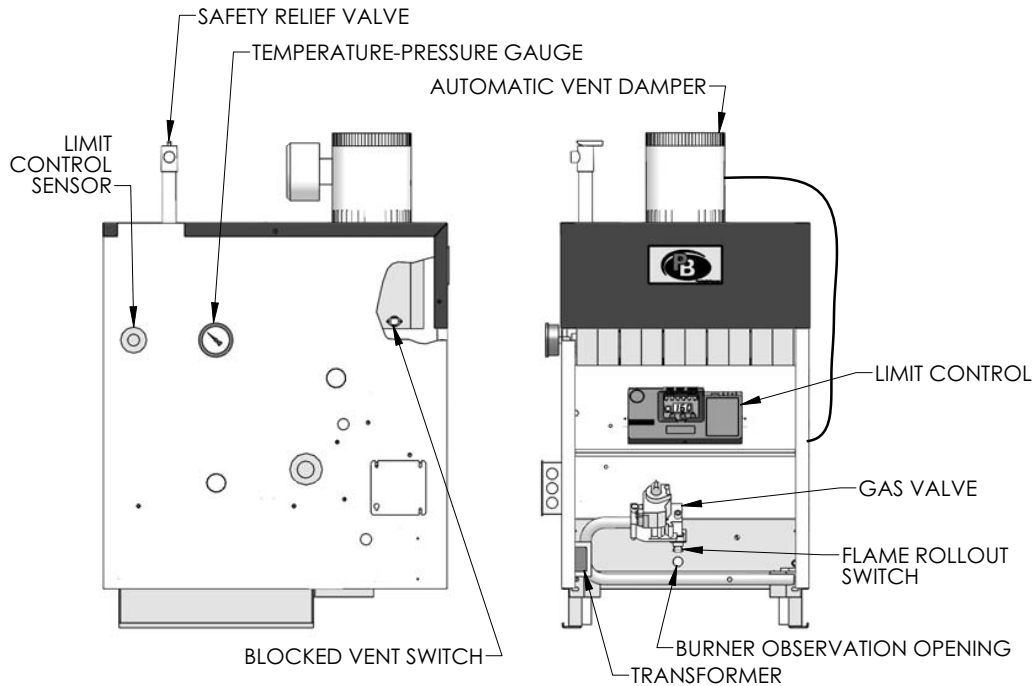

Figure 1: Control Locations
- 1. Limit.** See Figure 1. A device which automatically interrupts boiler operation when the water temperature exceeds the set point. Maximum allowable temperature is 240°F (115°C).
- 2. Flame Rollout Switch.** See Figure 1. A device which automatically interrupts boiler operation when flames or excessive heat are present in the combustion area. The control is a single use device. If the control is activated to interrupt boiler operation, do not attempt to place boiler in operation. Contact a qualified service agency.
- 3. Blocked Vent Switch (Vent Safety Shutoff Switch).** See Figure 1. A device which automatically interrupts boiler operation when there is a blockage in the vent pipe or chimney. The control is a manual reset device. The control is located on the draft hood relief opening. If the control was activated to interrupt boiler operation, do not attempt to place boiler in operation. Contact a qualified service agency.
5. **Gas Valve.** The gas valve regulates gas flow to the burners and pilot. See Figure 1.